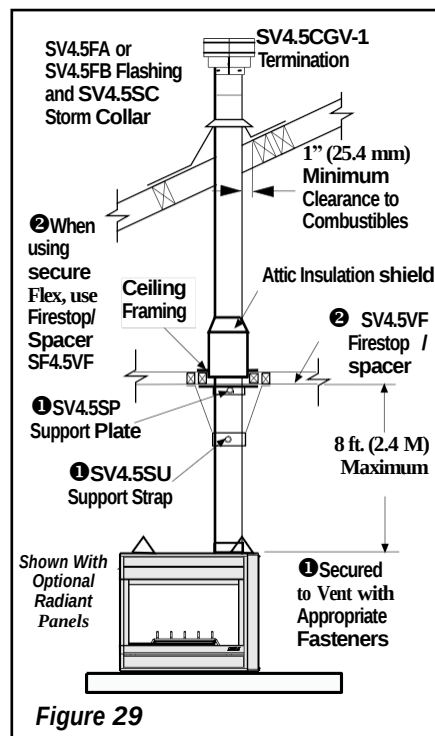

Figure 29
D. Install firestop/spacer at ceiling (Figure 29) - When using **Secure Vent**, use SV4.5VF firestop/spacer at ceiling joists; when using **Secure Flex**, use SF4.5VF firestop/spacer. If there is living space above the ceiling level, the firestop/spacer must be installed on the bottom side of the ceiling. If attic space is above the ceiling, the firestop/spacer must be installed on the top side of the joist. Route the vent sections through the framed opening and secure the firestop/spacer with 8d nails or other appropriate fasteners at each corner. **Remember to maintain 1" (25 mm) clearance to combustibles, framing members, and attic or ceiling insulation when running vertical chimney sections. Attic insulation shield (H3907) must be used and may help to obtain the required clearances indicated here. See installation accessories tables on pages 38 and 39.**
Support the vertical portion of the venting system every 8 feet (2.4m) above the fireplace vent outlet. One method of support is by utilizing field provided support straps (conventional plumber's tape). Secure the plumber's tape to the framing members with nails or screws. Loop the tape around the vent, securing the ends of the tape to the framing. If desired, sheet metal screws #6 x 1/2" length may be used to secure the support straps to the vent pipe. Refer to **Figure 29**.